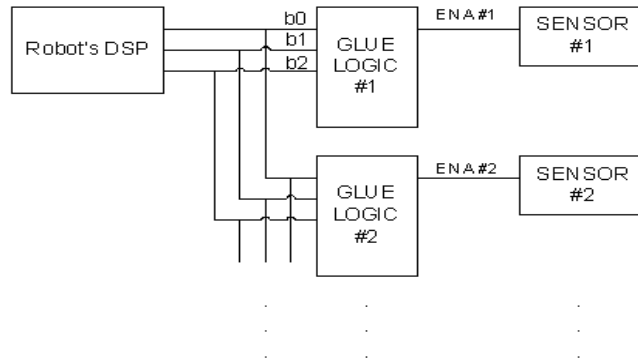

Figure 2.
- Assume you have three digital output lines coming from your DSP as show in Figure 2. These lines are used to enable and disable different sensors on a mobile robot. Design the glue logic required to map the lines [b0 b1 b2] to SENSOR #1 as shown in Table 1. See “Introduction to Mechatronics” Chapter 6 for help on this problem. Especially useful pages: 187-188 and 192-193.